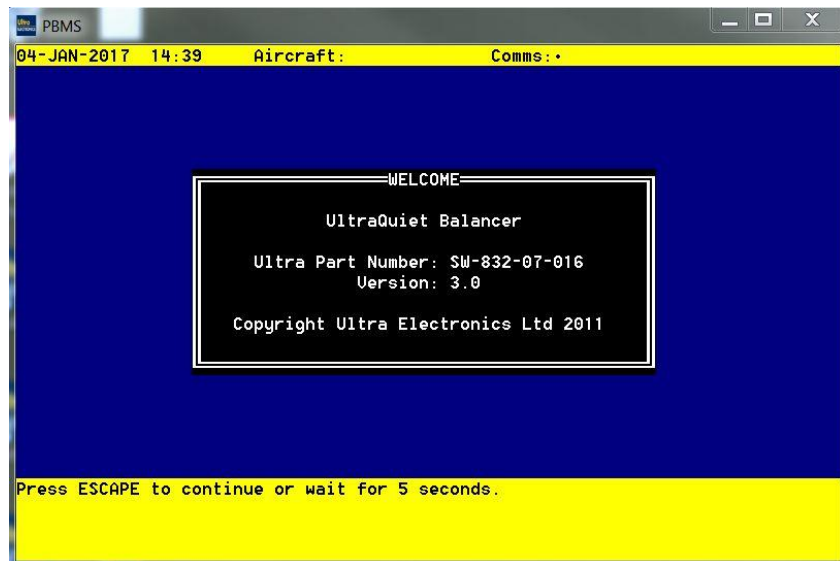
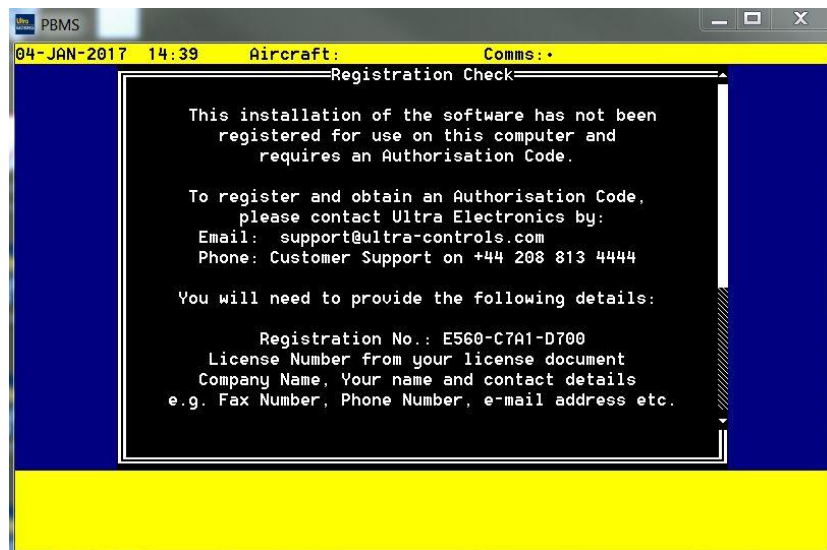

Figure 2-1 Welcome Screen
Figure 2-2 Registration Check Screen
- (2) Switch the Laptop PC on.
- (3) Open from the PBMS icon created on the Windows Desktop or in Windows Explorer double click **PBMS.exe** located in **C:\MT830**.
- (4) After a few seconds the Welcome screen will be shown (Refer to Figure 2-1) followed by the Registration Check Screen (Refer to Figure 2-2).
- (c) The Registration Number generated by the PBMS Terminal (Refer to Figure 2-2).